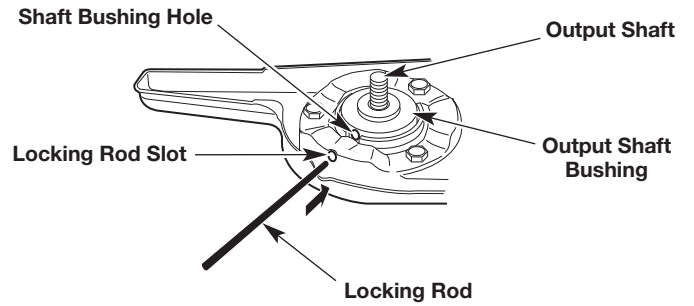

Fig. 21
1. Align the shaft bushing hole with the locking rod slot (Fig. 21). Insert the locking rod into the locking rod slot and shaft bushing hole (Fig. 21).
2. Align the shaft bushing hole with the locking rod slot (Fig. 21). Insert the locking rod into the locking rod slot and shaft bushing hole (Fig. 21).